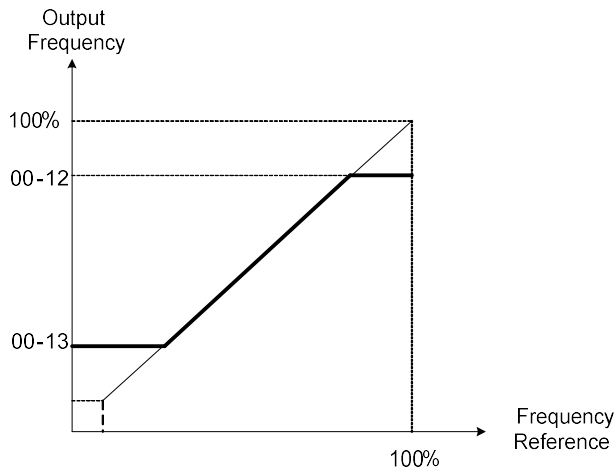

Figure 4.3.8 Reference frequency upper and lower limits
- When the frequency reference is zero and the operation command is inputted, the motor operates at the lower limit of the frequency reference, determined by 00-13 and the minimum frequency of 01-08 (or 01-22). Please refer to Figure 4.3.8.